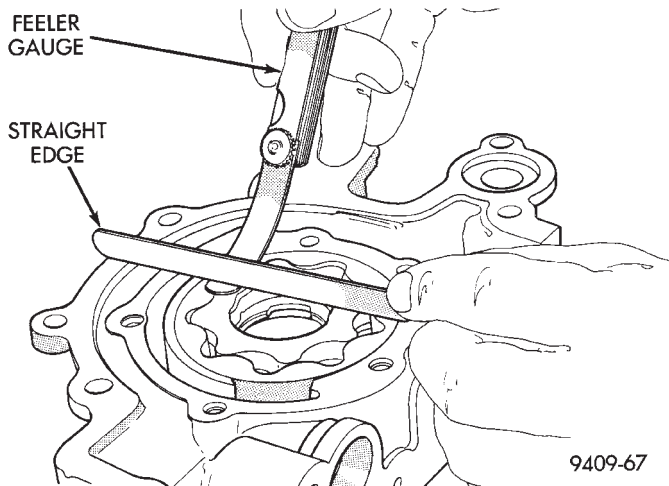

Fig. 130 Measuring Clearance Over Rotors
(7) Place a straightedge across the face of the pump housing, between bolt holes. If a feeler gauge of .102 mm (.004 inch) or more can be inserted between rotors and the straightedge, replace pump assembly (Fig. 130). **ONLY** if rotors are in specs.